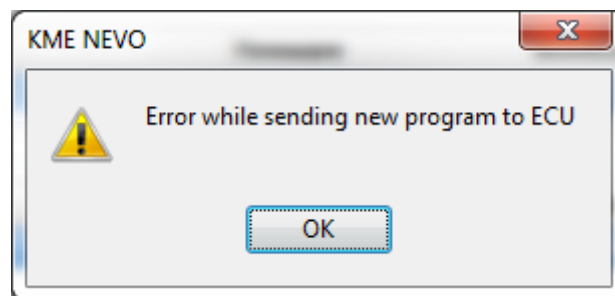

Fig. 3.5 Information about communication failure.
- In case of fault in communication during actualization, (Fig. 3.5, press „OK”) press “Auto connect”